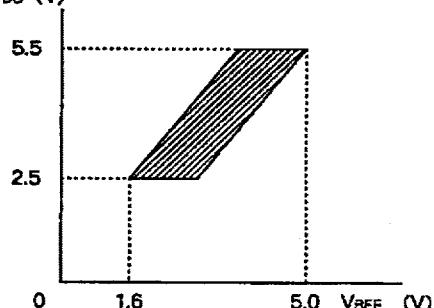

Fig. 5 Power supply voltage detection reset function chart
The graph in Fig. 5 shows the relationship between the power supply voltage  $V_{DD}$  and reference voltage  $V_{REF}$  of the power supply voltage detection reset function.
Note) The graph in Fig. 5 serves as guide to the  $V_{DD}$  (V) function operation area obtained using average devices.